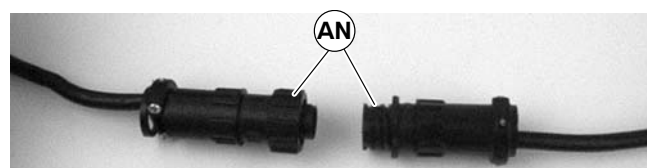

Figure 22
3. For DC variable speed motor, unplug motor cord at disconnect (AN of Figure 22).